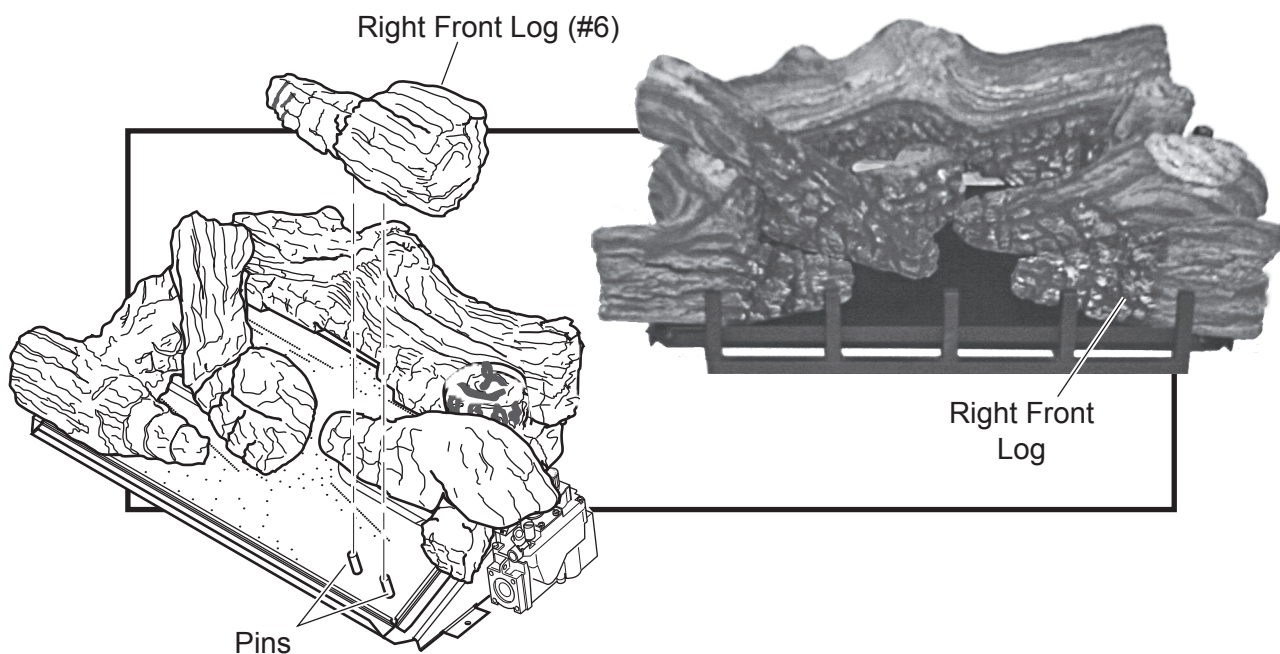

Figure 25 -
6. Place right front log (#6) on two pins on the right front of grate. See Figure 25.